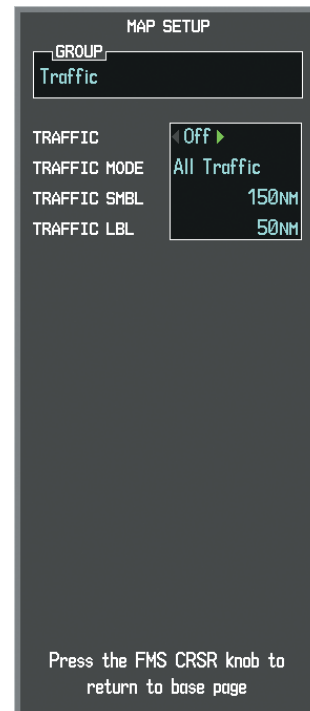

Figure 6-103 Navigation Map Page Setup Menu, Traffic Group
- 5) Turn the large **FMS** Knob or press the **ENT** Key to scroll through the selections (Figure 6-103).